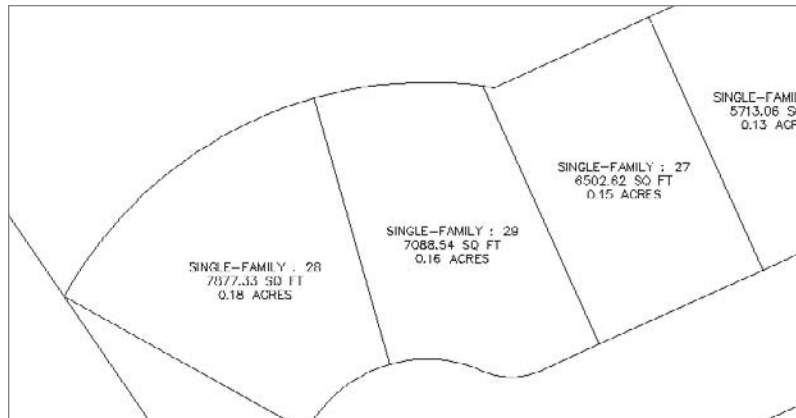

Figure A.26
3. Use your endpoint osnap to draw a polyline like the one shown in Figure A.26.